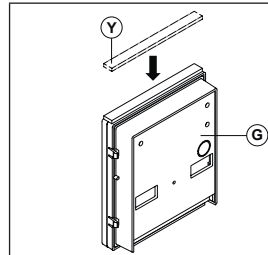

Fig. 6
Apply the (Y) seal as shown in **Fig. 6**.